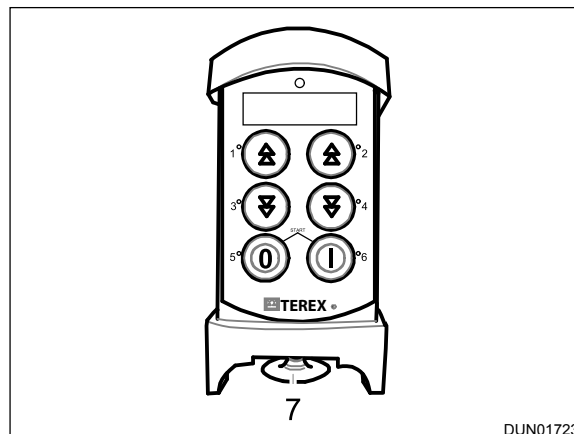

Figure 7.38 - Teleradio Remote Tracking Transmitter
3. Turn the transmitter on using the switch on the back and release the machine stop button (button 7) at the bottom of the transmitter, Reference: Figure 7.38.
4. Hold buttons 5 and 6 until the transmitter beeps indicating the log-in process has begun, Reference: Figure 7.38.
7. Press button 5 to disable the tracks. Press button 7 to switch off the machine, Reference: Figure 7.38.